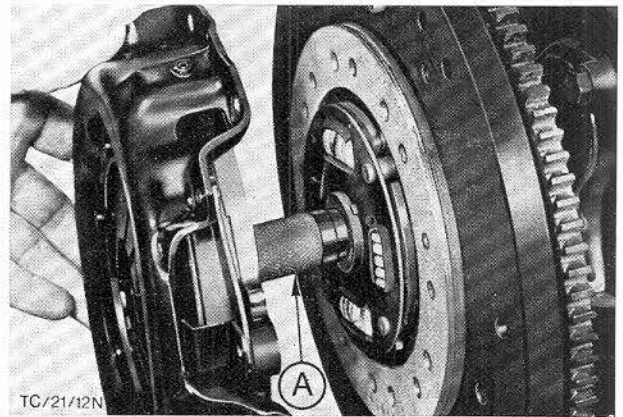

Fig. 52. Centre clutch disc and pressure plate.
48. Position clutch disc using Special Tool G2-7600-B/P-7137, Fig. 52. Place pressure plate on dowels and torque as specified in Technical Data.